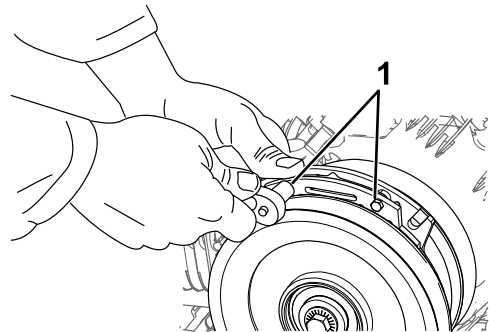

Figure 60
- A. Loosen both brake mounting bolts 1/2 to 1 full turn as shown in Figure 60.